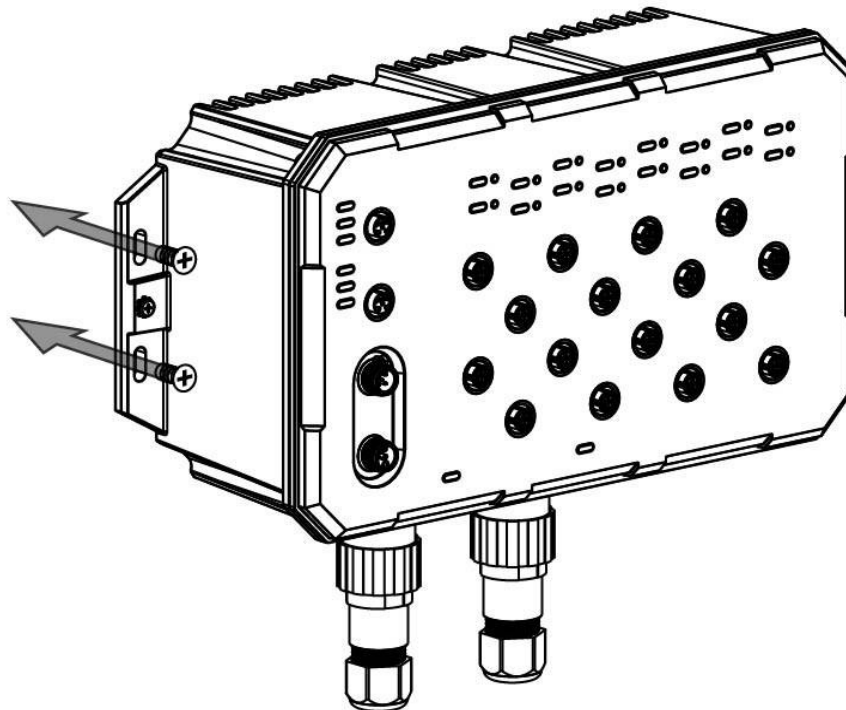

Figure 3.1 - The Rear Side of the Switch
Follow the steps below to mount the industrial Ethernet switch to a wall using the screw holes as shown below in *Figure 3.1*.
Step 3. Insert the screws through the screw holes on the switch and screw the switch into the wall. Shown above in *Figure 3.1*.